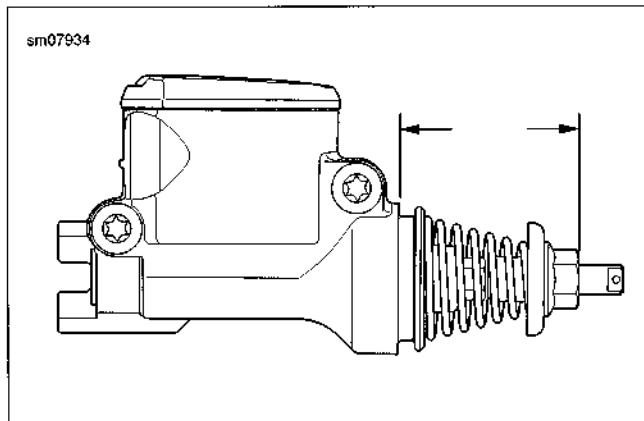

Figure 2-68. 1.92 in (48.8 mm)
15. See Figure 2-68. Tighten hex nut to 1.92 in (48.8 mm) from face of master cylinder to end of hex nut.